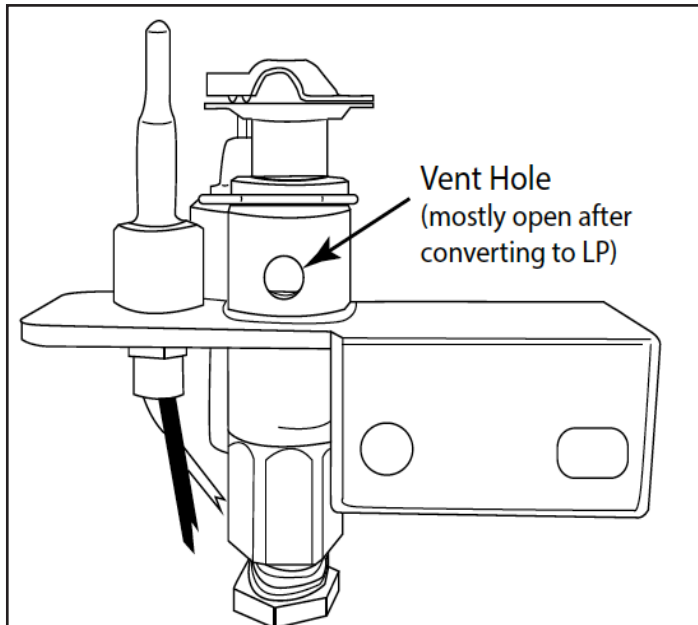

Fig. 9 Pilot assembly converted to LP
Step 8: Lift/pull the pilot head straight up and out of the pilot assembly. If pilot head does not move, then pull the wire clip, under the head, with a small screwdriver or needle-nose pliers, then lift the head off. See Fig. 9.